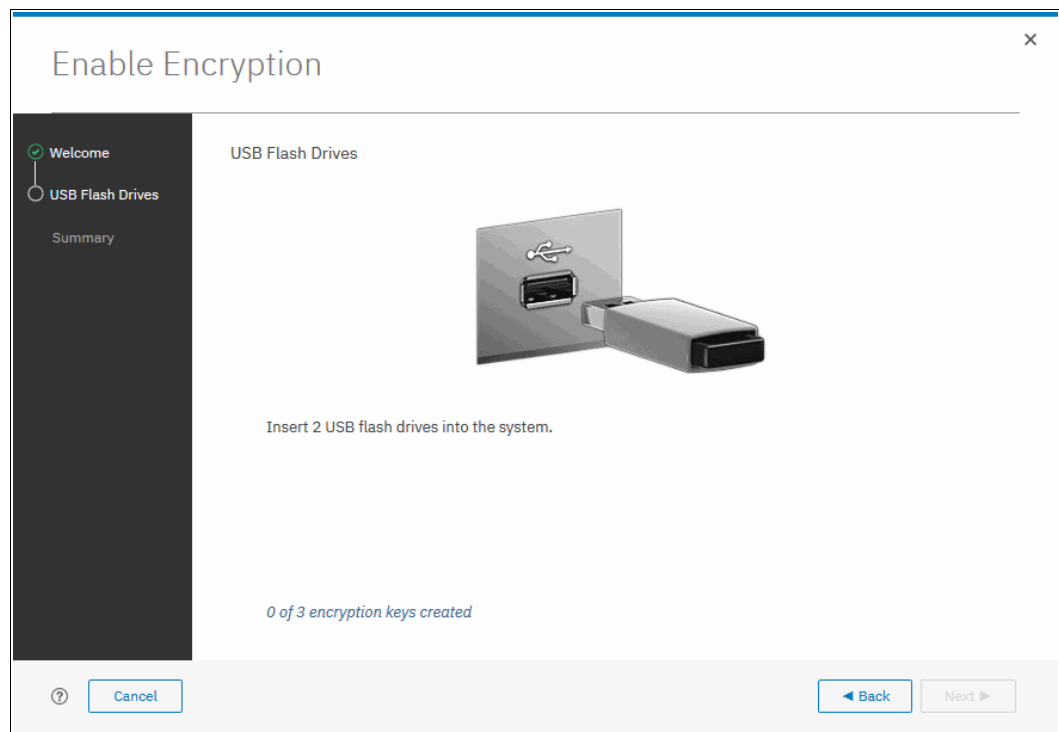

Figure 13-25 Waiting for USB flash drives to be inserted
2. If there are fewer than two USB flash drives inserted into the system, you are prompted to insert more drives, as shown in Figure 13-25. The system reports how many more drives need to be inserted.